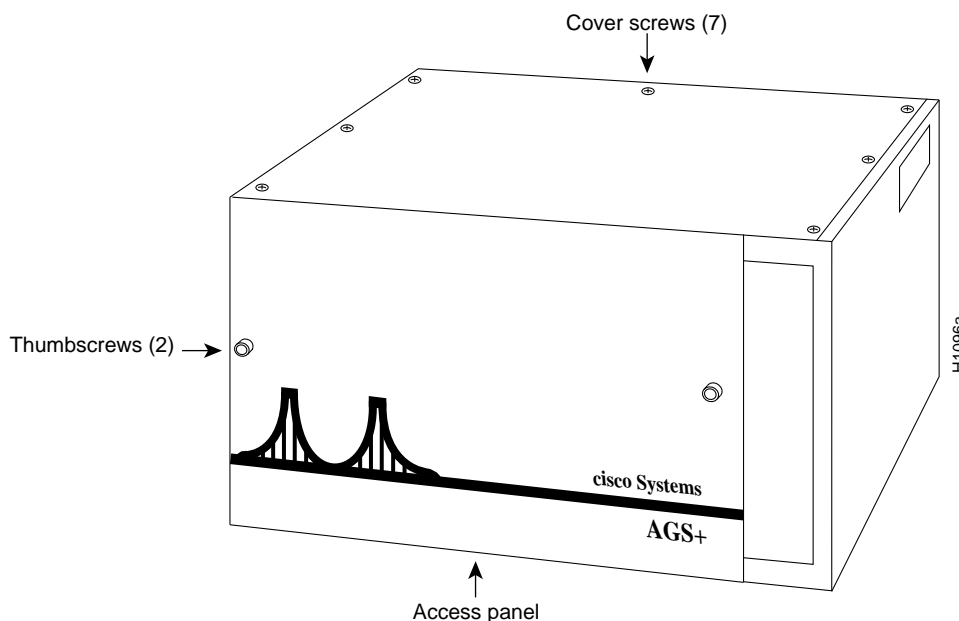

Figure 5 Chassis Front and Top Panels
- Step 5** To access cards in the card cage, loosen the two thumbscrews and remove the front panel from the chassis. (See Figure 5.) If you wish to access cards in the card cage only, skip the next step.
- Step 6** To access other system components, locate and remove the seven No. 1 Phillips screws securing the top cover. (See Figure 5.) Set the top cover and screws aside.